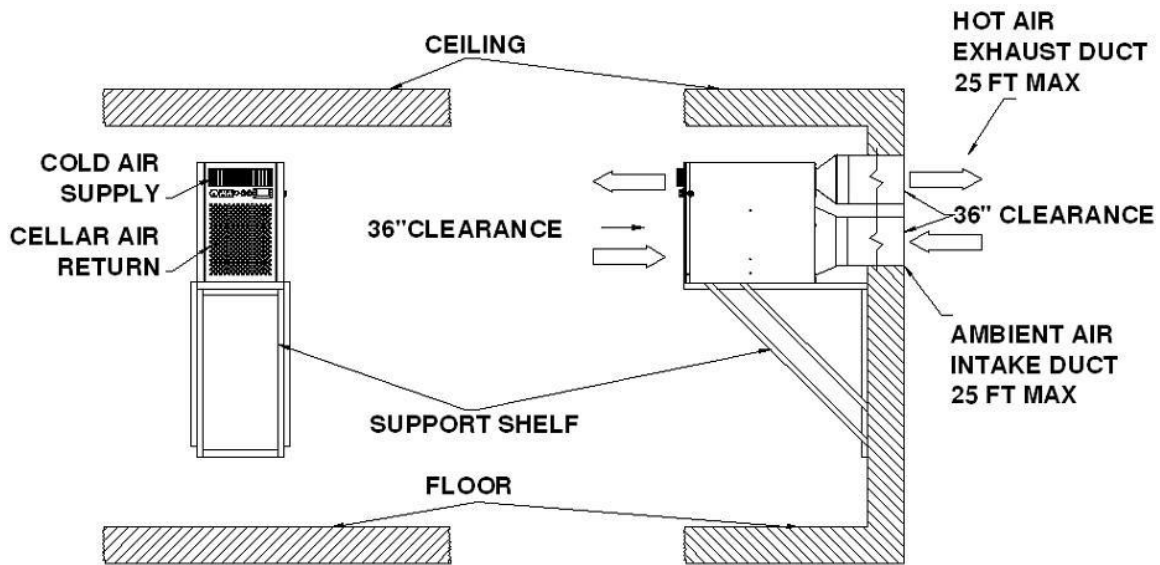

Fig. 4.8 In-cellar with hot-air exhaust & ambient-air intake ducts
4. In-cellar installation with hot-air exhaust and ambient-air intake ducts (Fig. 4.8, 4.9, 4.10 & 4.11)